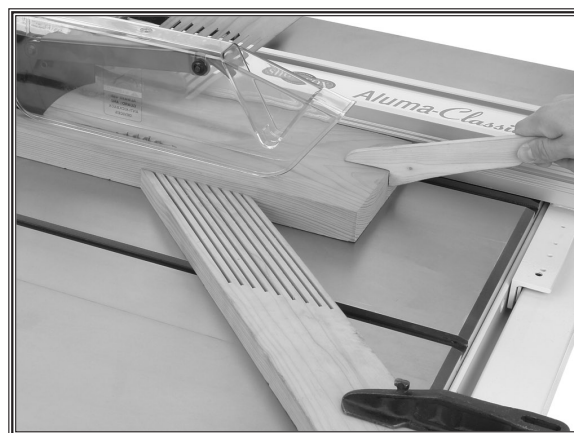

Figure 22. Ripping operation.
10. Using a push stick, feed the workpiece through the saw blade, as shown in **Figure 22**, until the workpiece is completely clear of the saw blade.